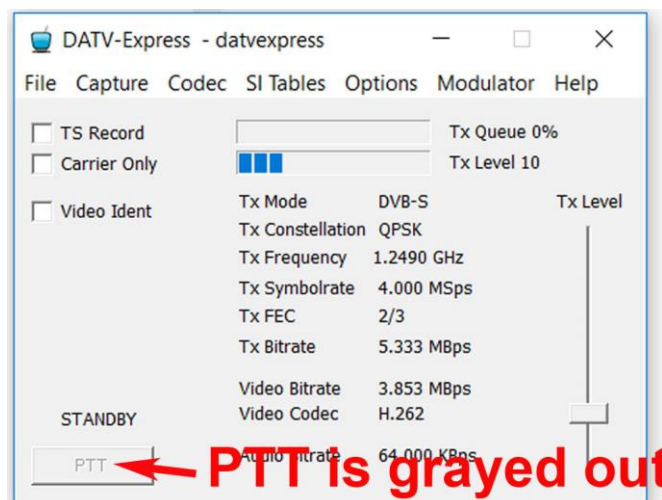

Figure 12 – The initial MAIN screen you should see after set-up is run and when v1.25LP11 is running in the DUMMY MODE.
- Double-click on the desk-top icon. The main screen of Express_DVB_Transmitter software should open in the DUMMY MODE as shown in **Figure 12**. The PTT button will remain grayed out until the correct board is powered up and saved in Section 3.0).